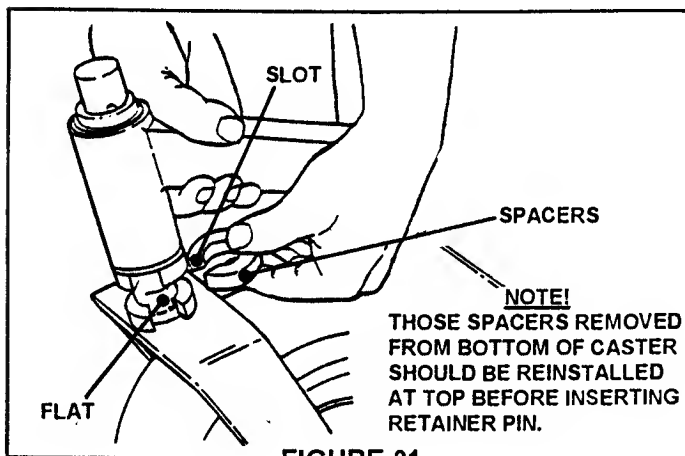

FIGURE 21
2. Lift Caster Support while adding or removing bottom spacer. See Figure 21.